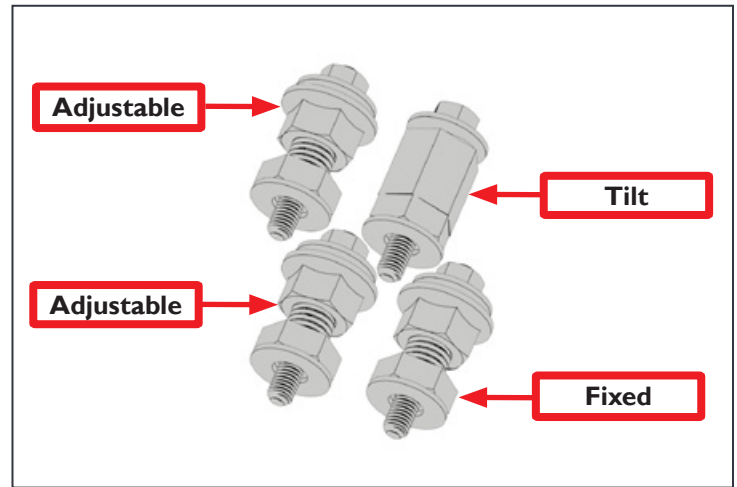

Figure 5
1. Identify four standoffs included with this kit (see **Figure 5**):
2. Arrange the four standoffs next to each other (see **Figure 5**).
3. Loosen or tighten the nut on the two adjustable standoffs until they are the same length as the fixed standoff (see **Figure 5**).